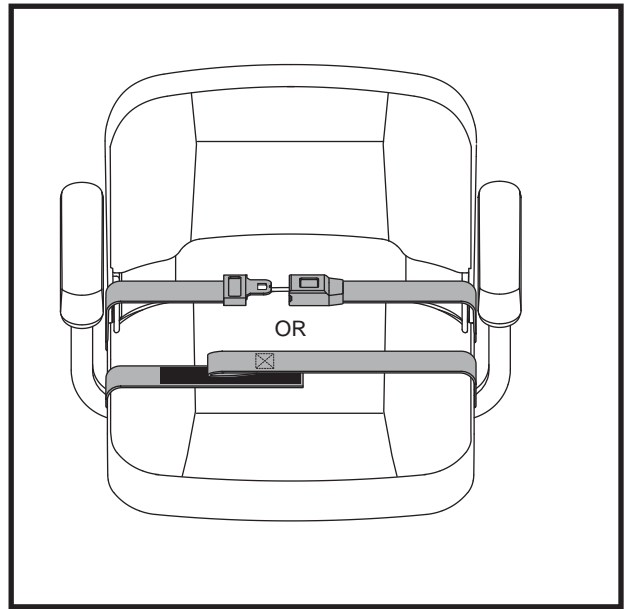

Figure 20. Positioning Belt - Metal Tab Style or Reusable Hook and Loop Fastener Style
Your scooter seat may be equipped with a positioning belt that can be adjusted for operator comfort. **See figure 20.** The positioning belt is designed to help support the operator so that he or she does not slide down or forward in the seat. The positioning belt is not designed for use as a restraining device.
1. Insert the metal tab on the right side of the belt into the plastic housing on the opposite strap until you hear a “click.” **See figure 20.**
1. Align the two sides of the belt placing the looped-end side directly above the coarser side (“hook”) of the opposite belt. Press firmly together to fasten. **See figure 20.**